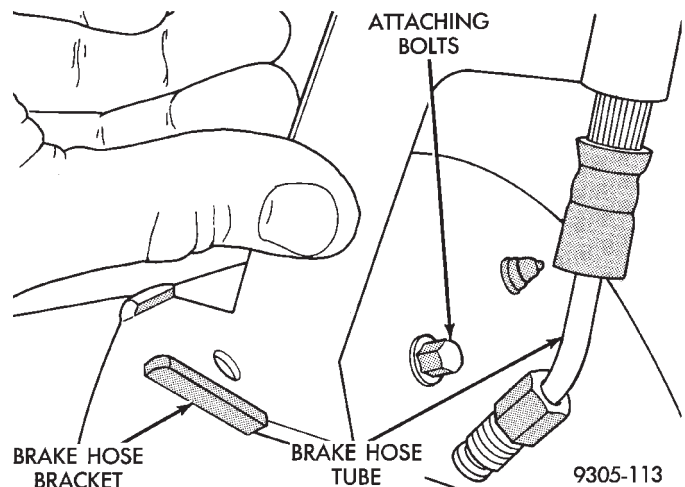
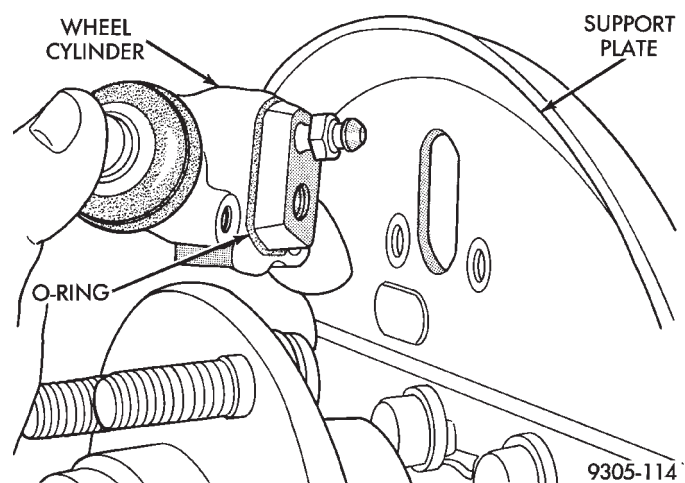

Fig. 1 Brake Hose Bracket And Tube Disconnected
Fig. 2 Remove or Install Wheel Cylinder
- (1) In case of a leak, remove brake shoes, (replace if soaked with grease or brake fluid.)
- (2) Remove brake hose bracket from rear brake support plate (Fig. 1).
- (3) Disconnect brake hose tube from wheel cylinder (Fig. 1).
- (4) Remove rear wheel cylinder attaching bolts (Fig. 1). Then pull wheel cylinder assembly off brake support plate (Fig. 2).
- (1) Install O-Ring on wheel cylinder as shown in (Fig. 2).
- (2) Install wheel cylinder onto brake support plate. Tighten the wheel cylinder to brake support plate attaching bolts to 8 N•m (75 in. lbs.).